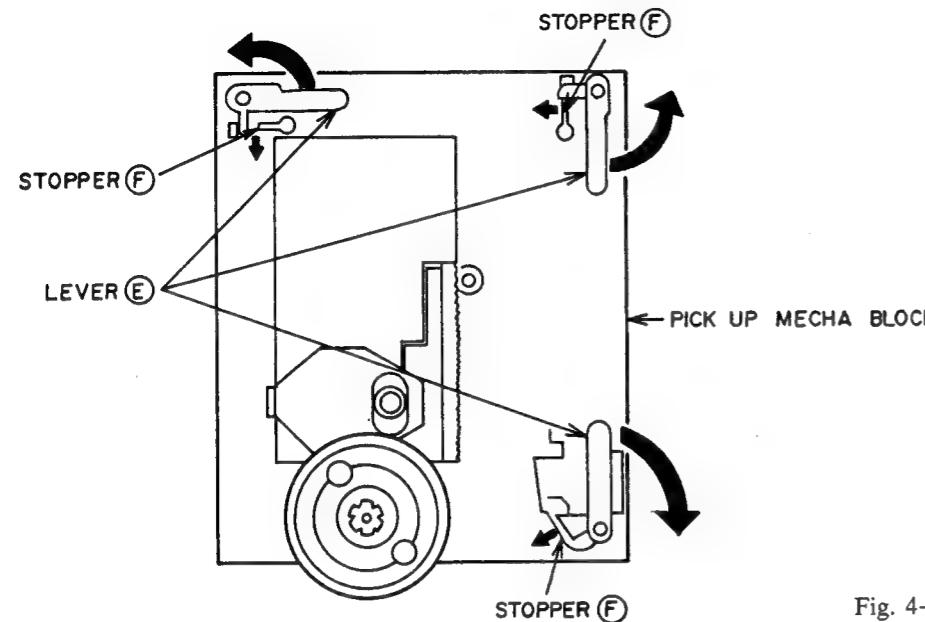

Fig. 4-7
- 1) Turn the LEVERS **E** while releasing the STOPERS **F** as shown Fig.4-7.